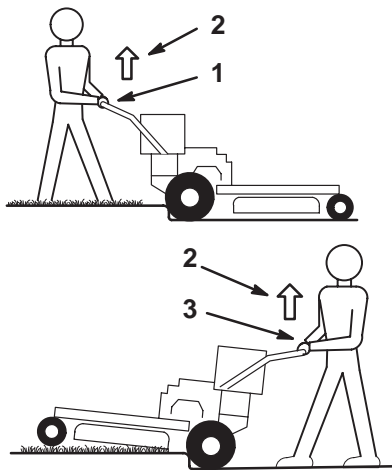

Figure 21
3. Drive machine until the castor wheels contact curb (Fig. 21).
4. Lift the front of the machine by pushing down on the lower handle (Fig. 21).
5. Drive machine until drive wheels contact curb (Fig. 21).
6. Lower the front of the machine (Fig. 21).
3. Drive the machine until drive wheels contact curb (Fig. 21).